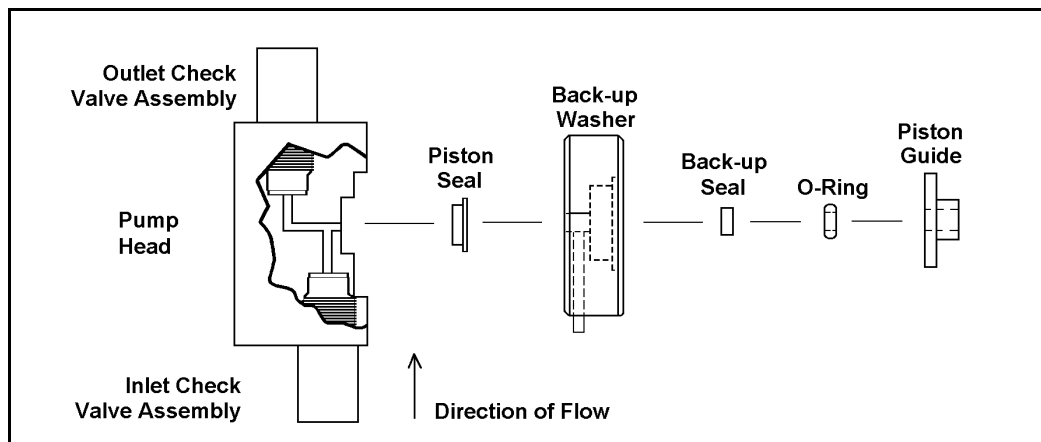

Figure 5-2. Pump Head Assembly
5. Place the head, front end down, on a clean work area. Lift the piston guide and back-up washer off, to expose the seal (see Figures 5-2 and 5-3).